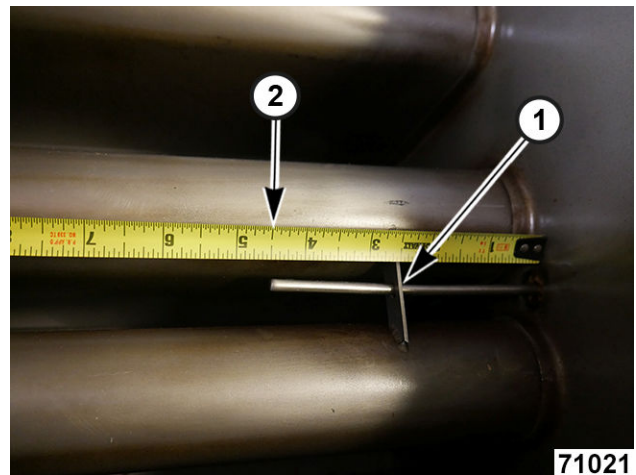

Fig. 59
12. Guide probe through guide bracket hole. (1, Fig. 59).
13. Position end of probe approx. 4.5 inches from inner tank wall (2, Fig. 59).